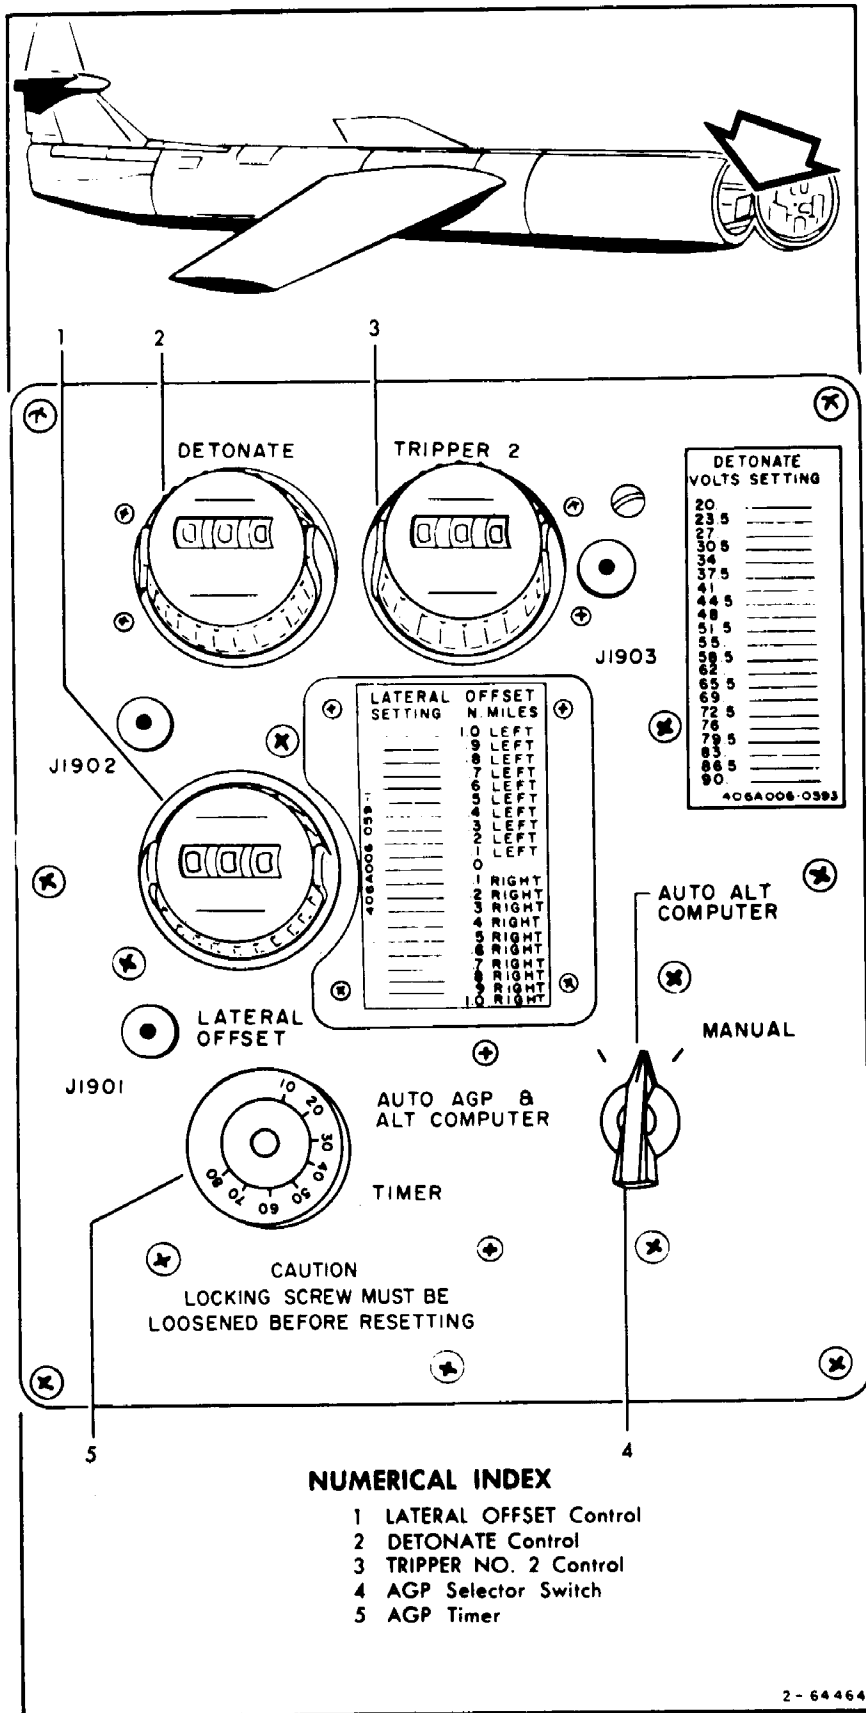

Figure 3-2. Control Program Unit (Effectivity C)
- a. Place AGP selector switch (4, figure 3-2) on Control Program Unit in position applicable to Prelaunch Data Card.